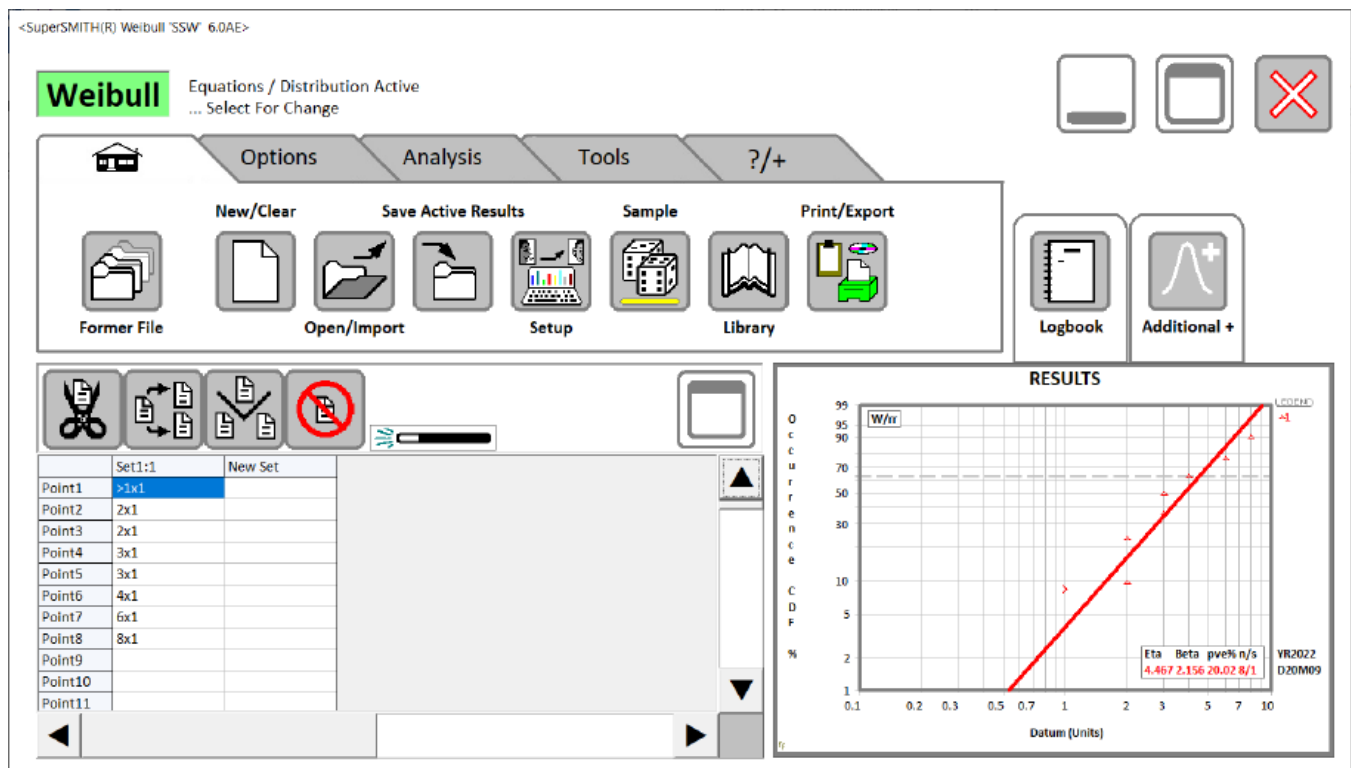

Figure 2: New SuperSMITH Weibull Main Screen Icon Layout.
**DIRECT INSTALL:** Power up the PC (Windows or simulator). Have the SS **setup.exe** and other installation files available. Load onto the PC by running **setup.exe** and following the prompts. After install, within the SuperSMITH group, select the SuperSMITH Weibull program. This is the SMITHW.EXE file or the icon showing plotted data with fit and confidence lines. Initially select “Yes” to agree to usage conditions, and automatically advance to the Main Screen (Figure 1 below shows the former icon layout, Figure 2 on the next page shows the new icon layout).
Use single selecting (single touching for touch screens) mostly in SuperSMITH. Double selecting is discouraged to minimize hand stress. We will be using life data mostly for illustration, but any type of measured data with variability can be analyzed. **For this tutorial if using the DEMO software, all input data must only be loaded from a file previously saved by a FULL SuperSMITH software program (provided with the software).** If using the FULL software, this is not a concern but maybe easier to do. All file names shown here are on a single text line for easy copying. Reminder: Figure 1 shows the new SSW icon layout for standard pointing device use, and Figure 2 shows an optional larger icon layout with tabs for touch screen use.
Start the SSW software by choosing Start from the Windows™ Main Screen, then the SuperSMITH group, then Weibull. On first use, select “Yes, I agree...” if you are asked and if you agree to the software use terms. You should see the Main Screen (Figure 2 below) with equation label (“Weibull” at first), some tabs, some icons, a data grid and a results box.
**B.** A probability plot should appear. Select the plot to enlarge. The plot should resemble the one in Figure 2. Your solution should indicate Eta=4.467, Beta=2.156. If not ... check the data and/or reset the method to Weibull “rank regression” standard. Select the full-window plot or use the <ESC> key to shrink the plot which will take you back to the Main Screen.